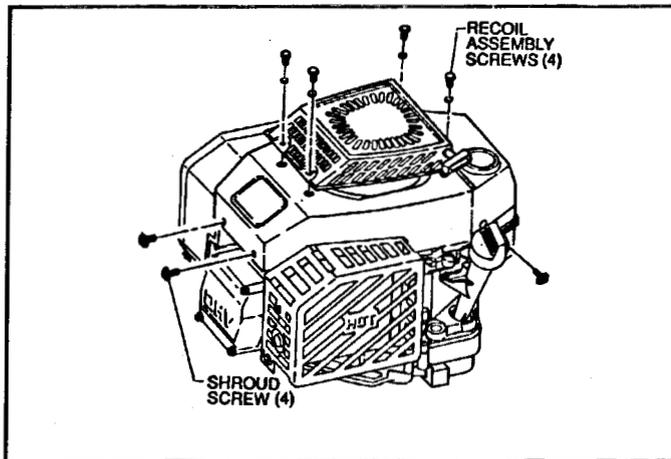

Figure 106
2. Install the recoil starter with four 5/16" hex, cap screws. Make sure there is a flat washer on each screw. Torque the screws to 40 in lbs (5 Nm) See Figure 106.